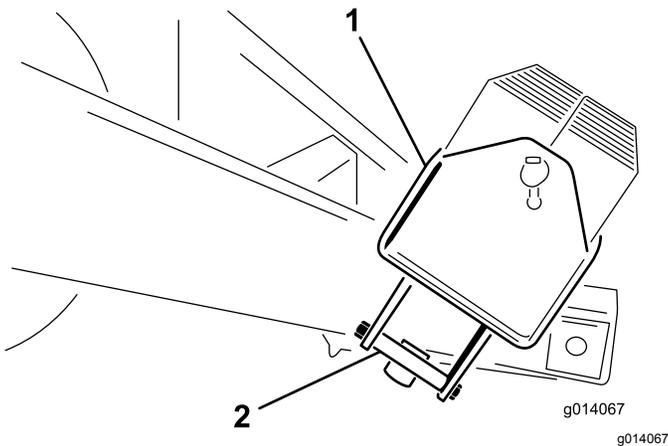

Figure 5
2. Remove the bolts (1/2 x 5-1/2 inch) from the mounting bracket holding the weight case. Discard the mounting brackets (Figure 5).